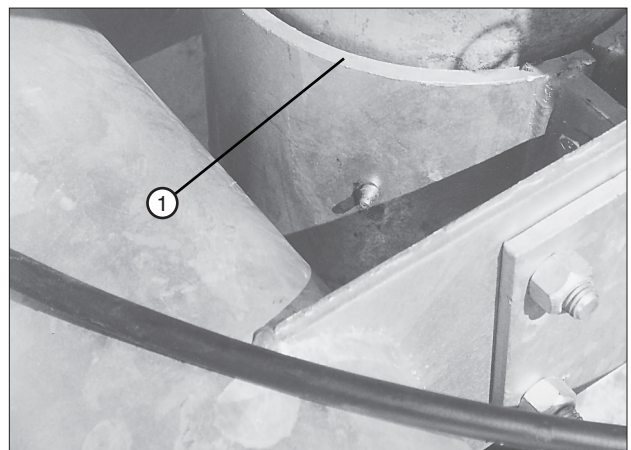

Figure 73-3 1. Lower Bearing
3. Lubricate two (2) grease fittings on the lower bearing. See figure 73-3.